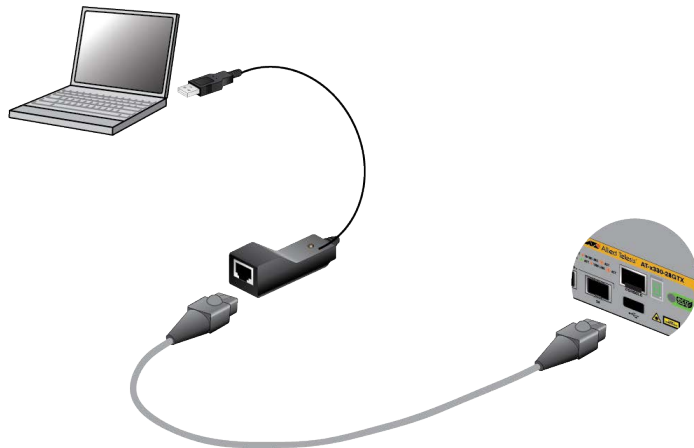

Figure 64. VT-Kit3 Management Cable with Workstation and Switch
- If it has a USB port, you may need to purchase a USB-to-Serial converter that is compatible with its operating system. An example is the VT-Kit3 converter from Allied Telesis shown in Figure 64.